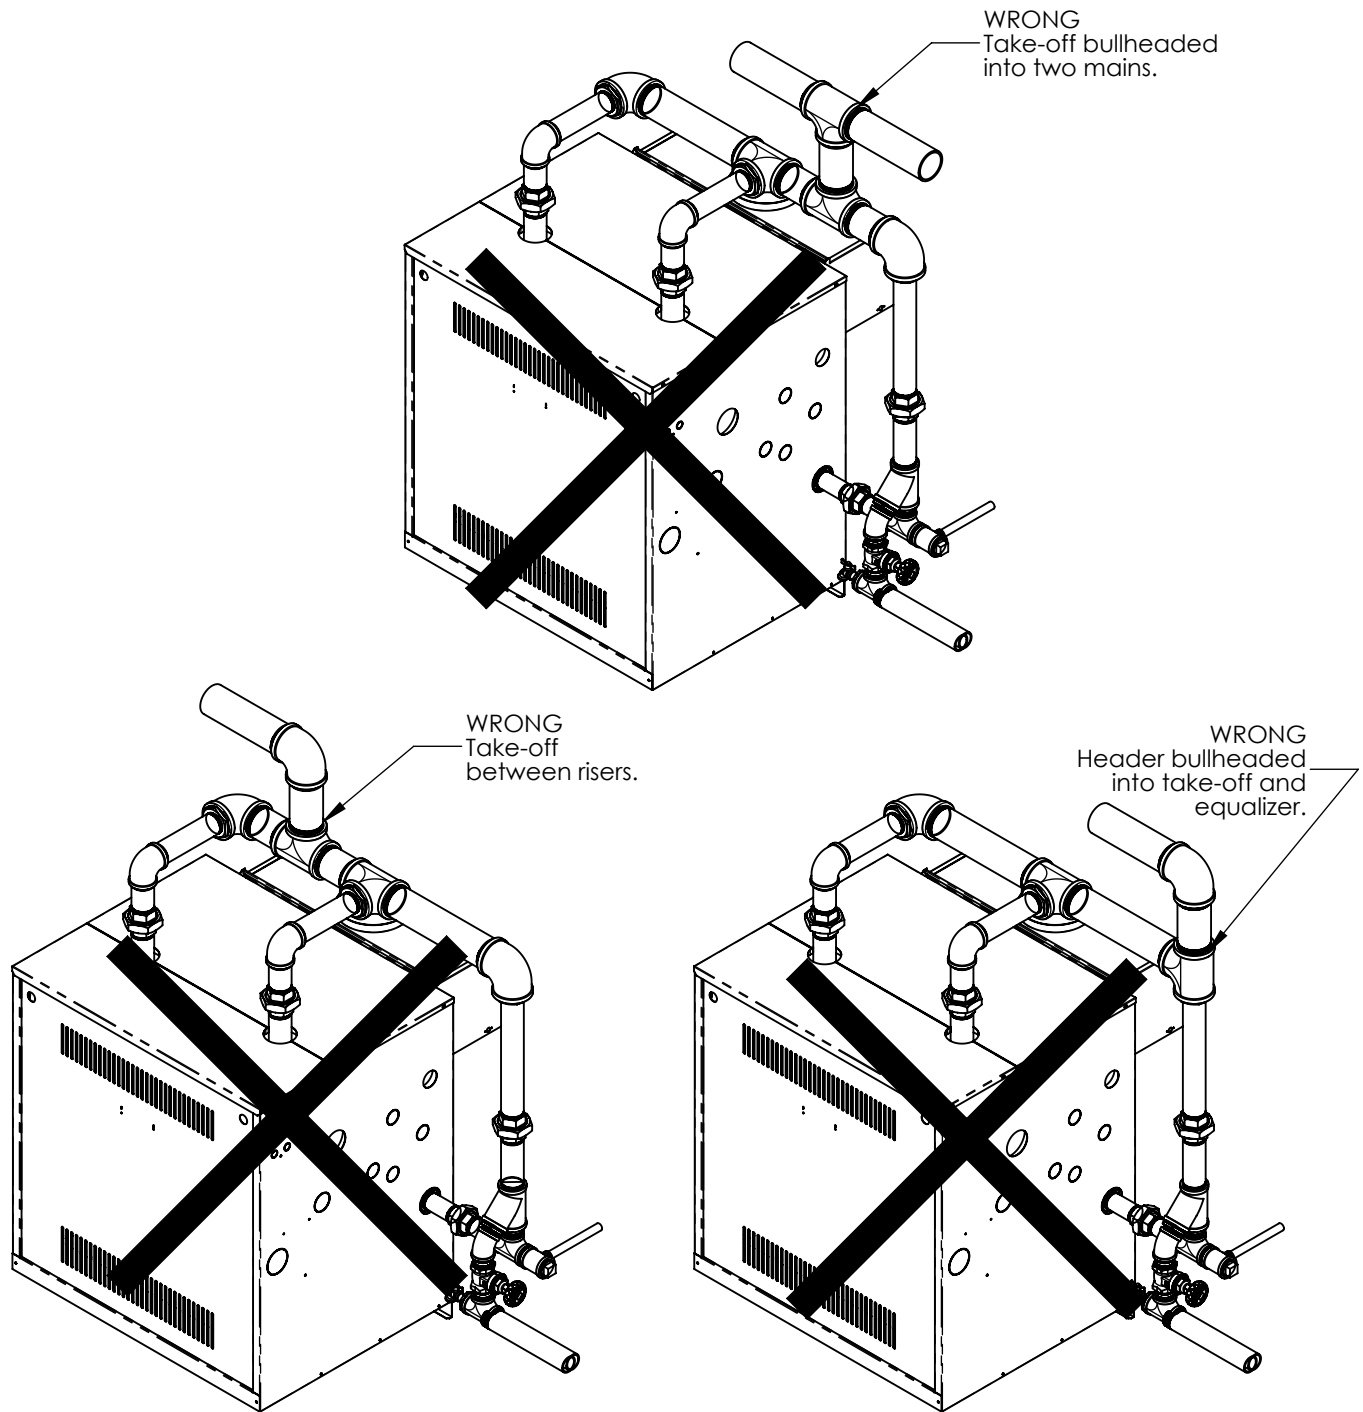

Figure 7-1: Common Near Boiler Piping Mistakes
Avoid three common piping mistakes shown in Figure 7-1. This applies even if existing boiler has one of the piping mistakes shown in Figure 7-1 and appears to be working. If two or more steam mains must be connected to boiler, connect a separate take-off for each main into the header between riser(s) and equalizer. Also note the following points:
8. A second system supply tee may be installed adjacent to the first supply tee. Both supply tees are to be located after the riser(s) but before the equalizer line. See Figure 7-1 for common near boiler piping mistakes.